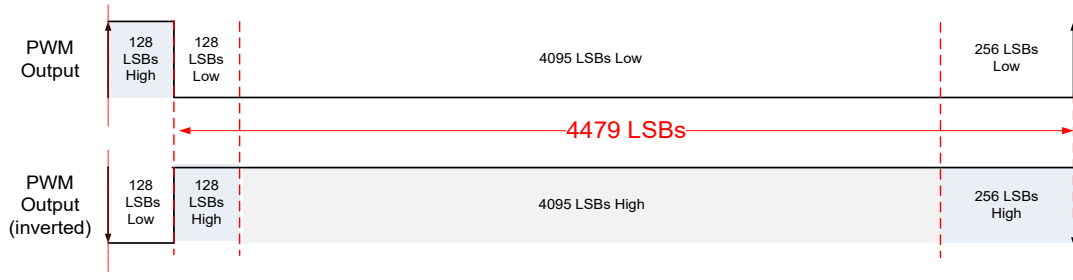
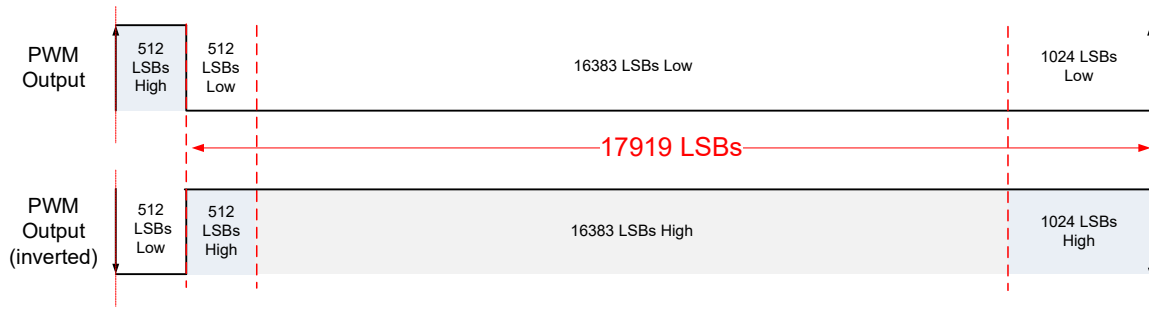

Figure 22. 12-bit PWM signal in Diagnostics Low mode
Figure 24. 14-bit PWM signal in Diagnostics Low mode
- Diagnostic Low mode, see Figure 22 and Figure 24